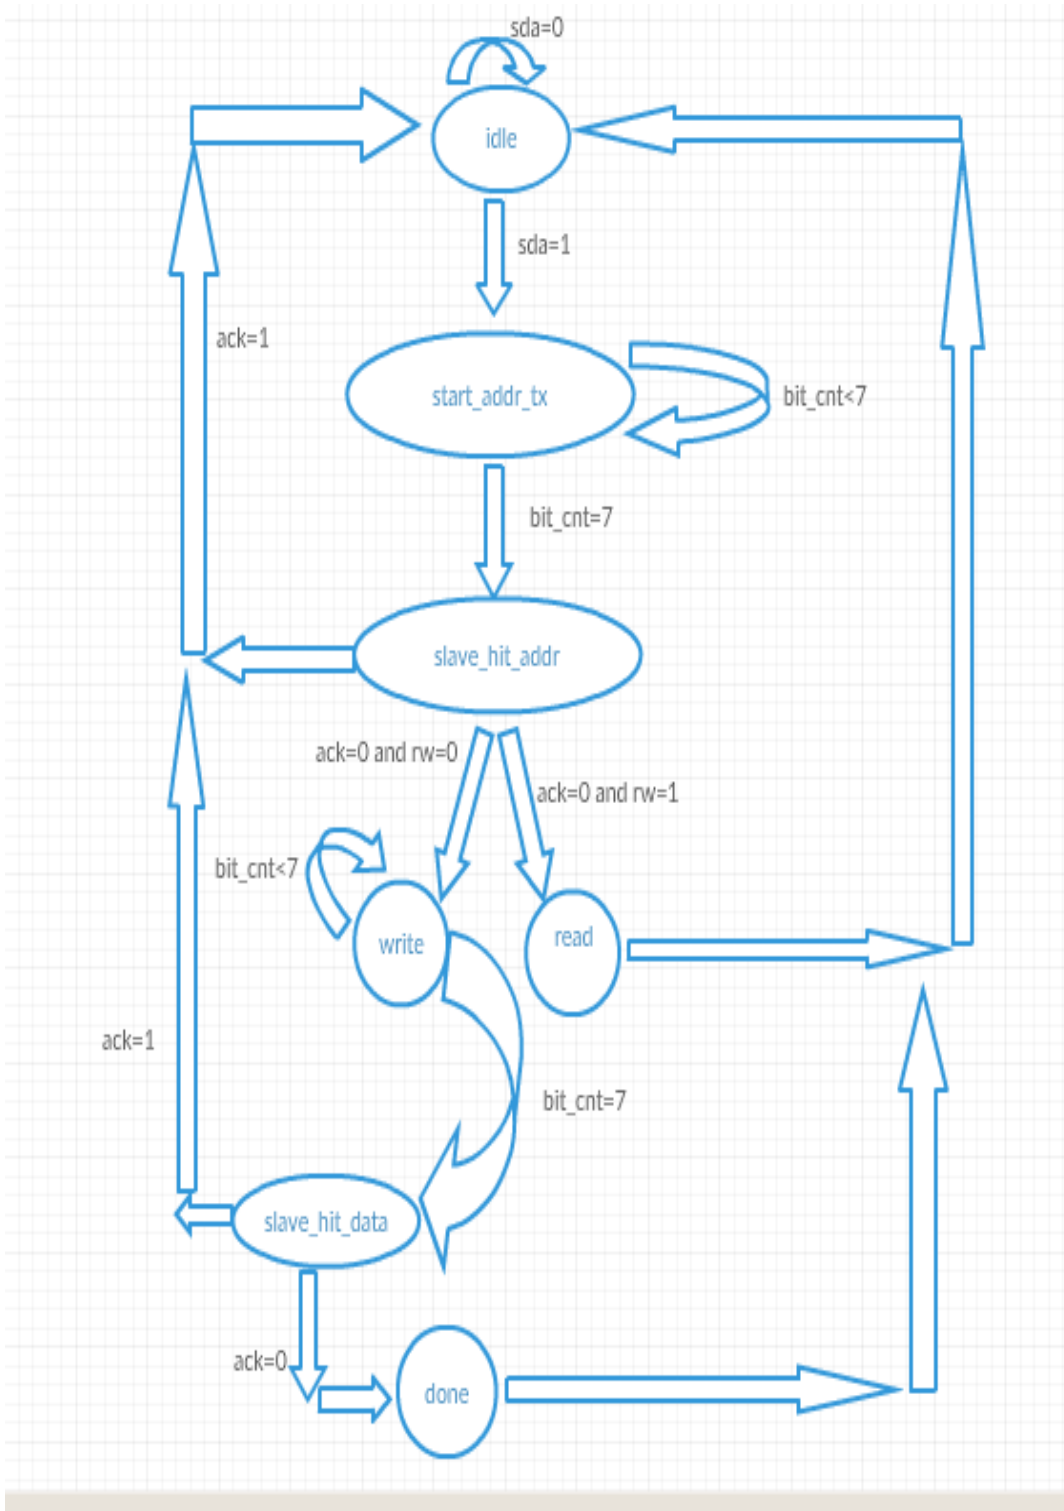

Fig. 3. State Diagram
- The I²C master we implemented uses the state machine depicted in Figure 3 to implement the I²C-bus protocol. Upon start-up, the component immediately enters the